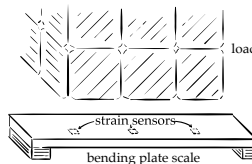

Figure 2.7. A bending plate scale with strain sensors and load.
**Problem 2.1**  **PLAYMATE** Consider the illustration of figure 2.7 in which a bending plate scale is to have a heavy load placed upon it. Such scales measure the weight of the load by measuring the strain on the sensors and electronically converting this to the weight placed on the plate. (It goes without saying that calibration is required for such systems.)